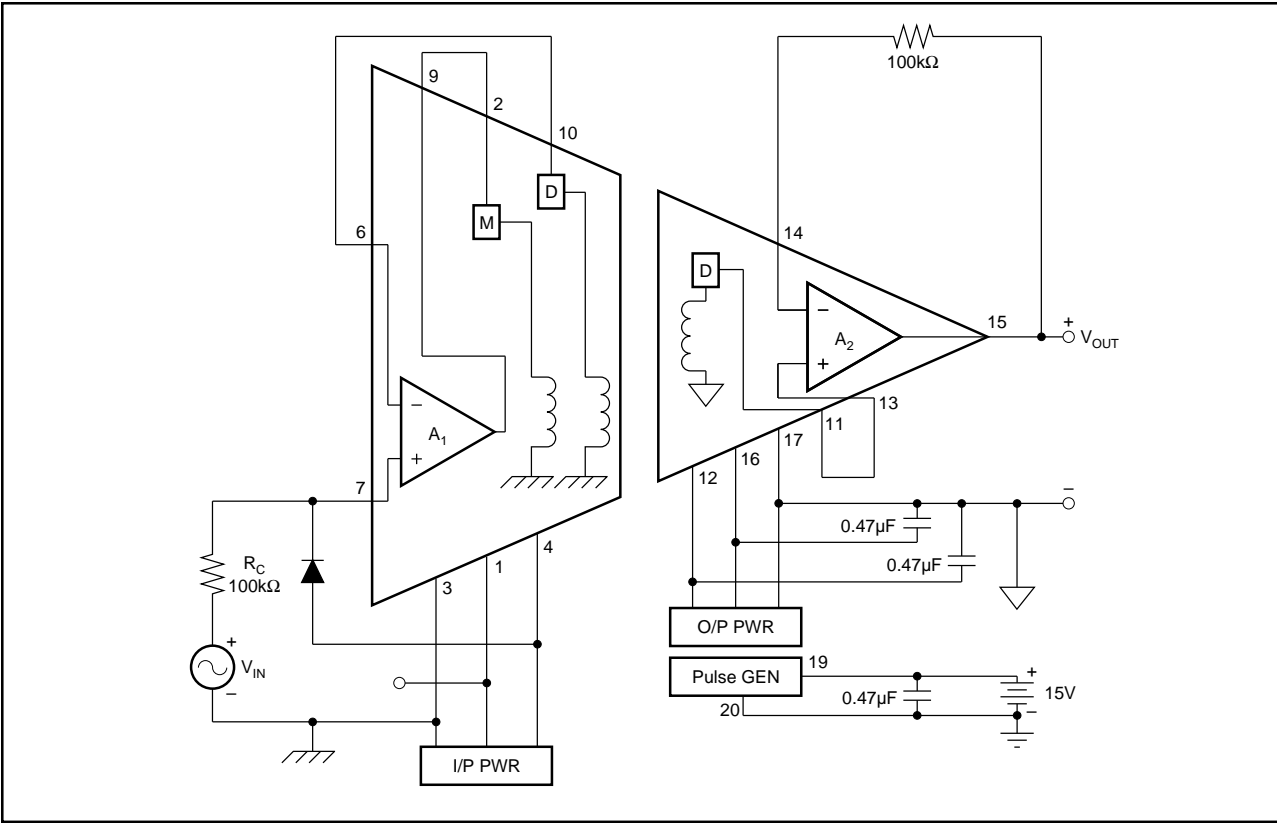

FIGURE 2. Power: Three-Port Isolation; Signal: Unity-Gain Noninverting.
5. The input voltage at pin 7 (noninverting input to A_1) must not exceed the voltage at pin 4 (negative supply voltage for A_1) in order to prevent a possible lockup condition. A low leakage diode connected between pins 7 and 4, as shown in Figure 2, can be used to limit this input voltage swing.
NOTE: Figures 2, 3 and 4 are used to illustrate both signal and power connection configurations. In the circuits shown, the power and signal configurations are independent so that any power configuration could be used with any signal configuration.
The power supply connections in Figure 2 show the full three-port isolation configuration. The system has three separate grounds with no galvanic connections between them. The two external $0.47\mu\text{F}$ capacitors at pins 12 and 16 filter the rectified isolated voltage at the output stage. Filtering on the input stage is provided by internal capacitors. In this configuration continuous isolation voltage ratings are: 3500V between pins 3 and 17; 3500V between pins 3 and 19; 1000V between pins 17 and 19.
The signal path portion of Figure 2 shows the 3656 is its simplest gain configuration: unity gain noninverting. The two $100\text{k}\Omega$ resistors provide balanced resistances to the inverting and noninverting inputs of the amplifiers. The diode prevents latch up in case the input voltage goes more negative than the voltage at pin 4.